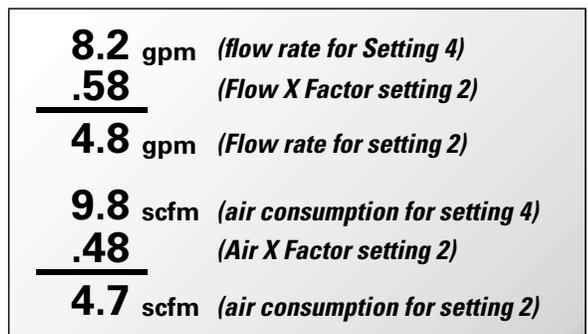

Figure 3
Step 3: Calculating performance for specific EMS setting. Multiply the flow rate (8.2 gpm) obtained in Step 1 by the flow X Factor multiplier (0.58) in Step 2 to determine the flow rate at EMS setting 2. Multiply the air consumption (9.8 scfm) obtained in Step 1 by the air X Factor multiplier (0.48) in Step 2 to determine the air consumption at EMS setting 2 (Figure 3).